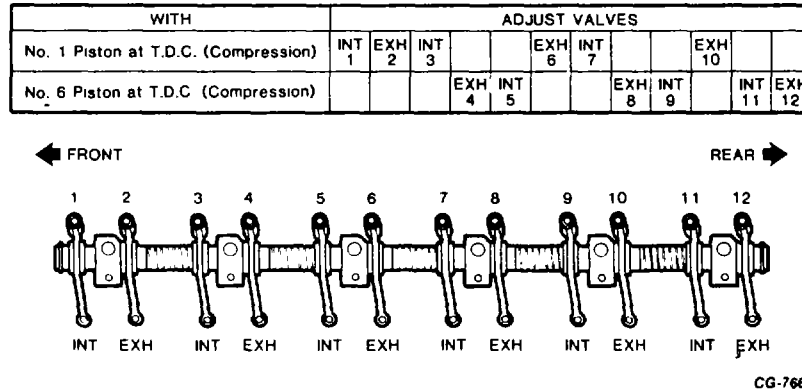

Figure 38. - Valve Arrangement (300/400 Series)
2. Six valves are adjusted when the No. 1 piston is at TDC (compression) and the remaining six are adjusted when the No. 6 piston is at TDC (compression). As depicted in Fig. 38 odd numbered valves are intake valves; and even numbered valves are exhaust valves.